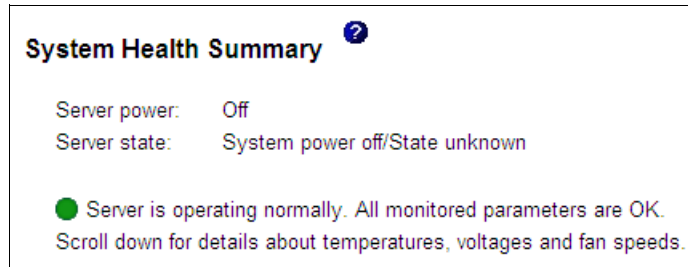

Figure 6-75 IMM System Health Summary
13. Wait approximately 10 minutes to power on the x3850 X5. There must be no LEDs lit on the light path diagnostics panel. The System Health Status in the IMM web interface looks like Figure 6-75.